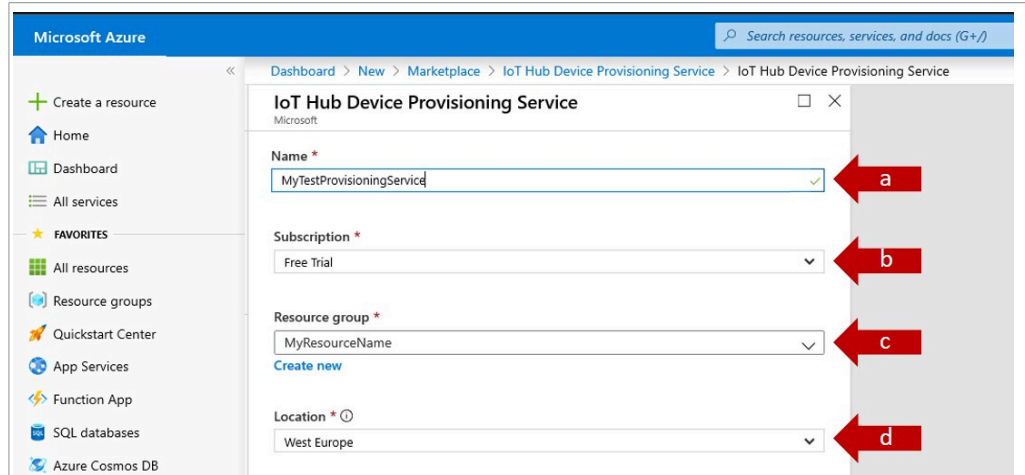

Figure 18. Provide the basic information of the IoT Hub Device Provisioning Service
- 2. Choose **Create** in the window that will open and fill the information of the IoT Hub Device Provisioning Service as shown in Figure 18. Then, click the **Create** button.